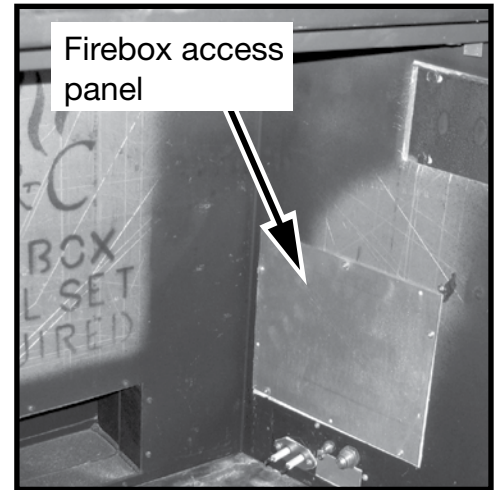

Figure 21: Access to firebox.
3. Remove access panel from right hand side of the firebox (Figure 21).